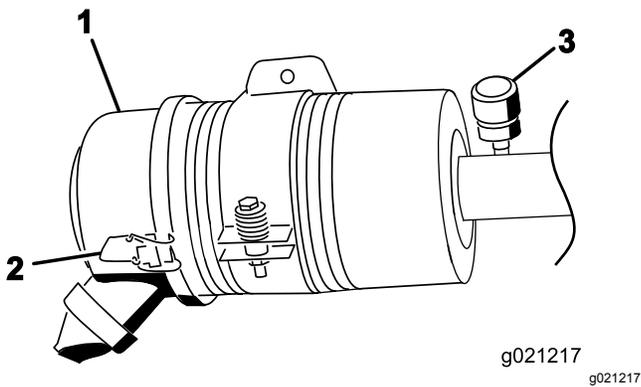

Figure 83
Service the air-cleaner filter only when the service indicator requires it (Figure 83). Changing the air filter before it is necessary only increases the chance of dirt entering the engine when you remove the filter.
2. Release the latches securing the air-cleaner cover to the air-cleaner body (Figure 83).